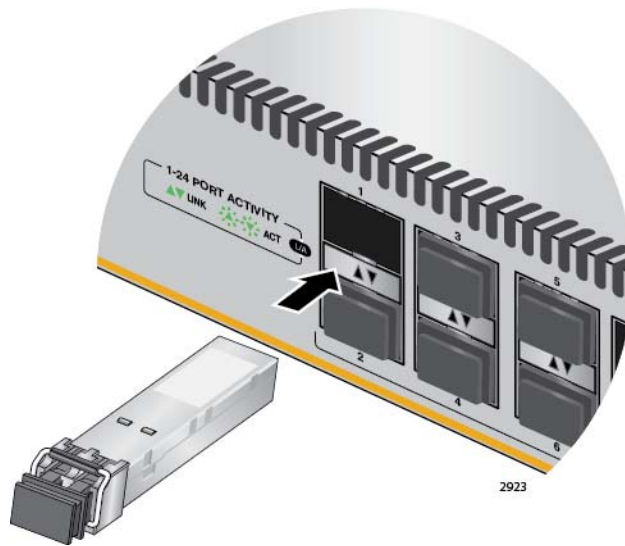

Figure 20. Installing an SFP Transceiver
4. Slide the transceiver into the slot until it clicks into place, as shown in Figure 20 on page 64.